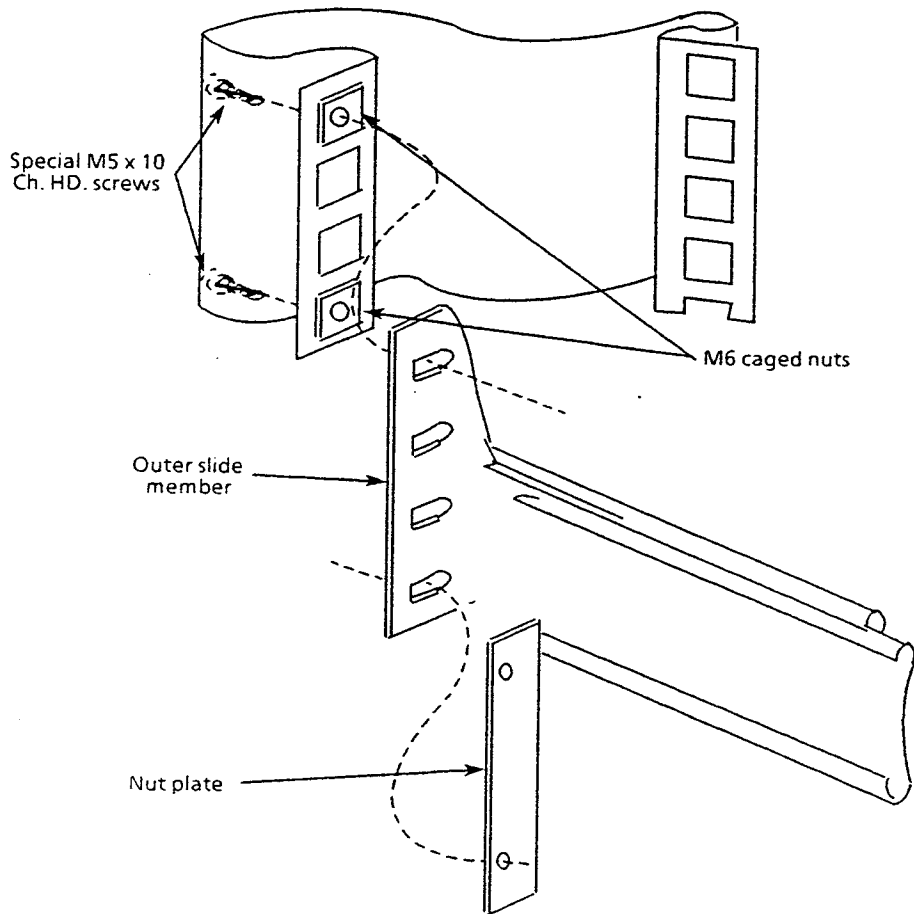

Fig. 2.7 *Fitting the outer slide members into the rack*
4.3.5 Fit the **Outer Slide Members** (two) to the rack as shown in Fig. 2.7